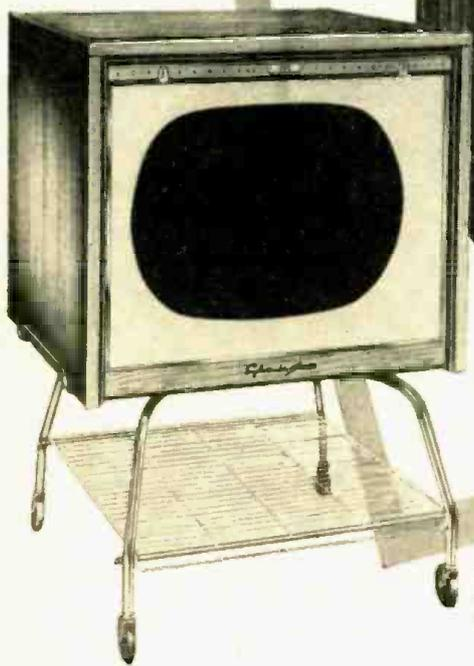

Fig. 1. The "Granada," a table model with side speaker, is the basic set.
Fig. 1. (A) Full amplifier output versus input without overload. (B) Amplifier is now being slightly overdriven. (C) Here a serious overload occurs and the amplifier would require four times present power capacity to avoid clipping shown.
The basic chassis for all *Sylvania* color sets is the type #1-534-1, with the major differences between models involving cabinet size, finish, and loud-speaker size. Fig. 1, model 31T304B, the "Granada," lists at \$605.00 in blonde while the same set with the letter suffix "M" for mahogany costs \$595.00. These models use a v.h.f. cascade tuner, but equivalents are available at slightly higher prices for both v.h.f. and u.h.f. reception. The inclusion of u.h.f. is indicated by the letter